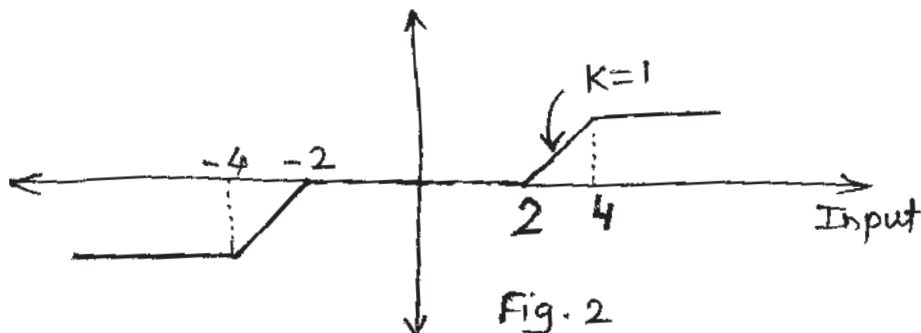

Fig. 2
- Q2) a) Find the describing function for the Nonlinear system having characteristics as shown in figure 2. [12]